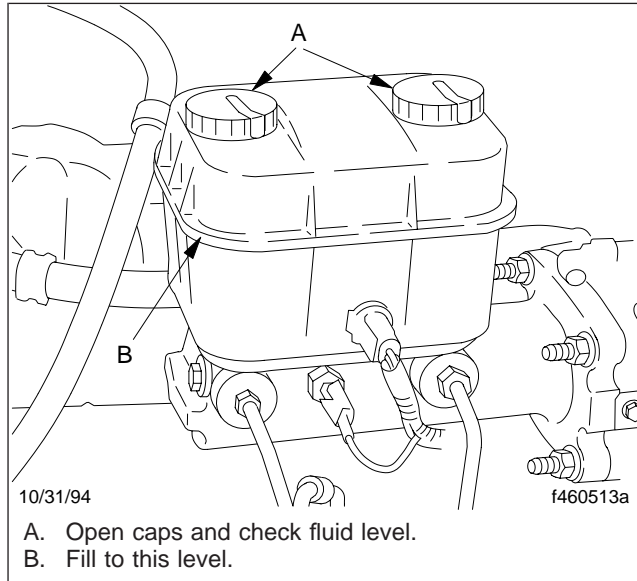

Fig. 9.5, Hydraulic Brake Fluid Reservoir
13. *Check the fluid level in the hydraulic brake fluid reservoir (Fig. 9.5) if equipped.*